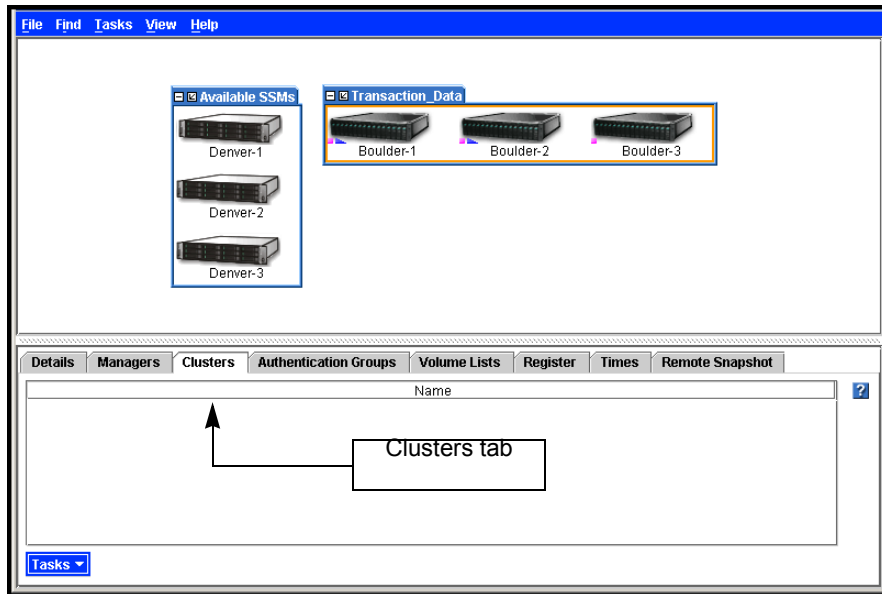

Figure 151. Viewing the Clusters Tab
2. Click the Clusters tab. The Clusters tab opens, shown in Figure 151.